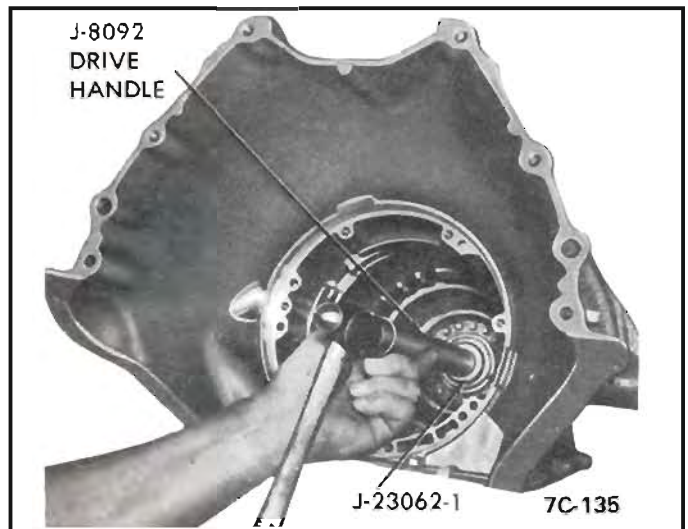

Figure 128 Case Bushing Installation
1. Using Tool J-23062-01 and Drive Handle J-8092, press bushing to 1/5" below chamfered edge of case. Make certain split in bushing is opposite notch in case. *See Figure 128.*